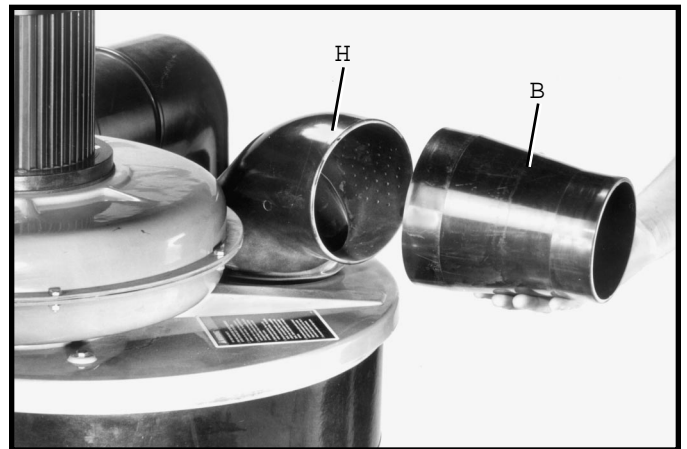

Fig. 18
12. Assemble reducer (B) Fig. 18, over the end of inlet elbow (H).